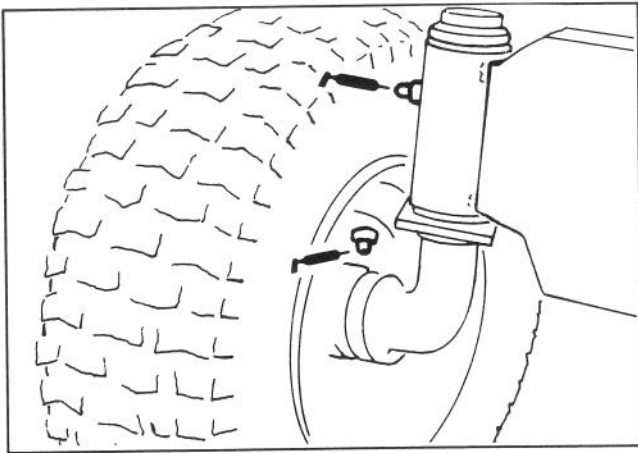

Figure 8
1. Wipe the grease fittings on spindles and wheels (Fig. 8) with a clean cloth. If there is paint on the front of the fittings, scrape it off.
2. Lubricate both axle spindles with No. 2 general purpose grease (Fig. 8). Continue to pump grease until it oozes out of the spindle. Wipe up any excess grease.
3. Lubricate both front wheels with No. 2 general purpose grease (Fig. 8). Pump the grease gun about four times. Wipe up any excess grease.